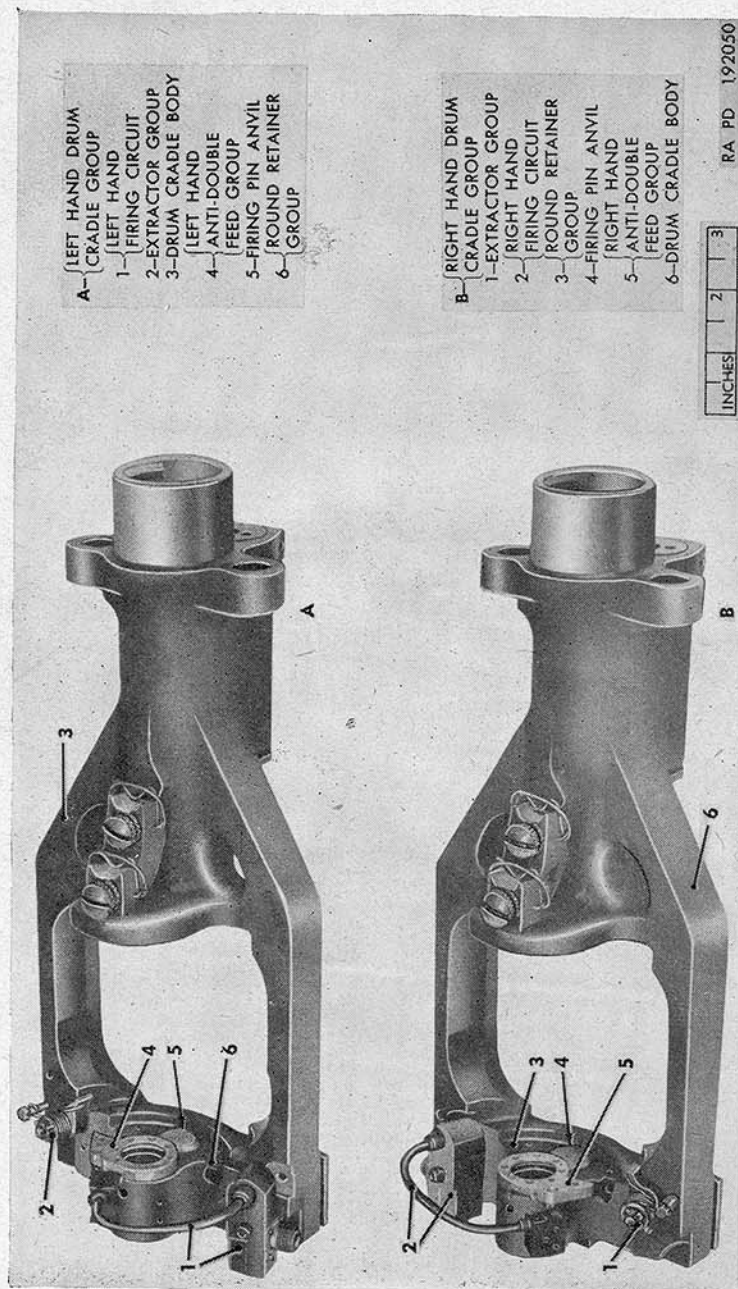

Figure 10. Comparison of drum cradle groups as prepared for left-hand and right-hand feed.
- (f) Install extractor group on left side of drum cradle (fig. 10) using a left-hand extractor spring and a left-hand extractor shaft (par. 75a).
- (g) Install round retainer group (fig. 10) in corresponding round retainer well on right side of cradle (par. 75b).
- (h) Obtain left-hand firing circuit (fig. 10) and install on drum cradle body (par. 75d).
- (i) Obtain left-hand antidouble feed group (fig. 10) and install on drum cradle body (par. 75e).